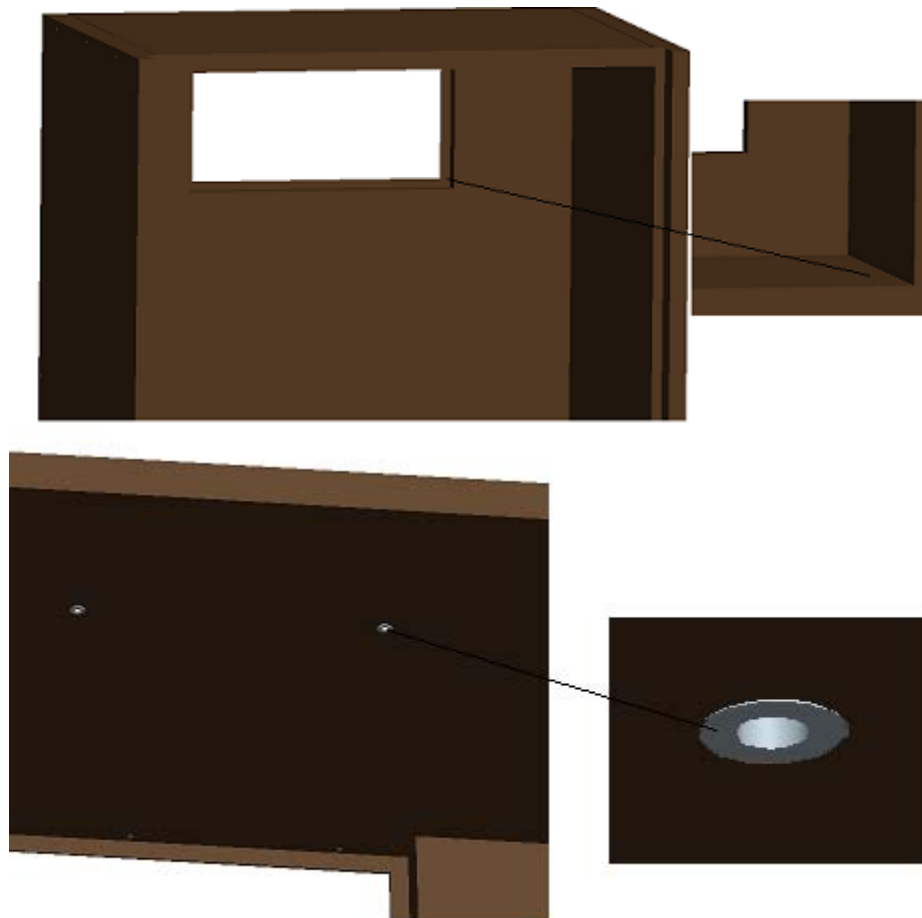

Fig. 2.1 MOUNTING CUTOUT AND SCREW INSERT
- Cut a rectangular inside opening at the rear of the cabinet with the 1/4" clearance inwards to the width and height of the cooling unit. By not going through, leave 1/2" lip inside at the wall to place the gaskets (see Fig. 2.1 & 2.3).
- Make 2 holes at the ceiling and install the ¼" inside diameter wood thread inserts (see Fig.2.1 & 2.3).